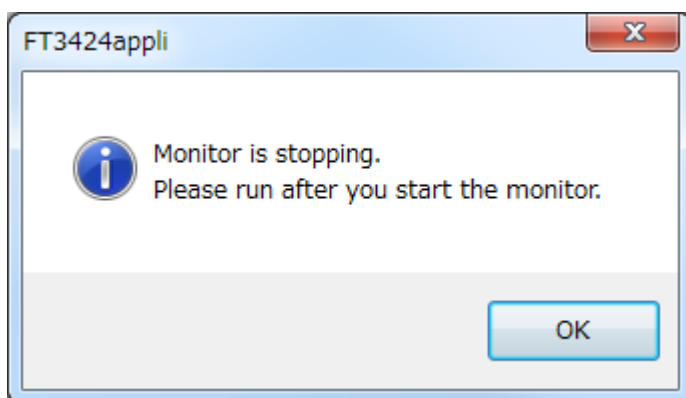

Fig.3-31
- (9) If you start paste record data to Excel by time interval (or by return key) during stop monitoring, the following message will appear. Please restart after monitoring. (Fig.3-31)